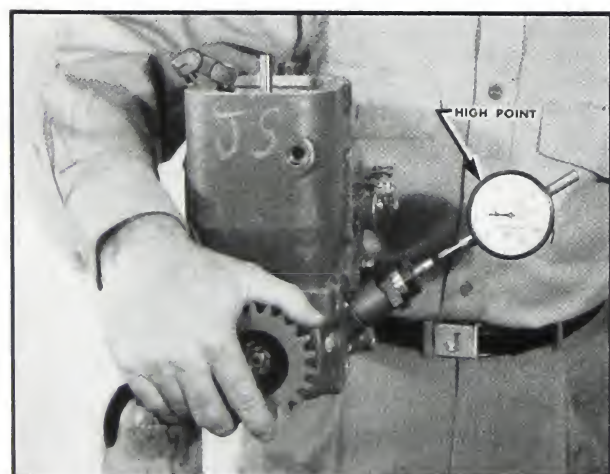

Fig. 5-344. High point of travel
5. Rotate the camshaft in direction of engine rotation and find the high point of indicator travel. Fig. 5-344.